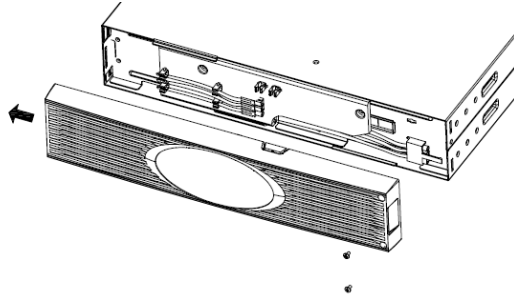

Figure 7: Removing the front cover from the battery module
3. Remove the front cover of each individual battery module (see Figure 7).
4. For the lower (or only) battery module, remove the cable ejection on the upper side of the front cover only. The position of the upper cable ejection is shown in Figure 7.
5. If you are installing more than one battery module, the respective upper and lower cable ejections must be removed for every battery module. The respective position of the cable ejections are shown in Figure 7.